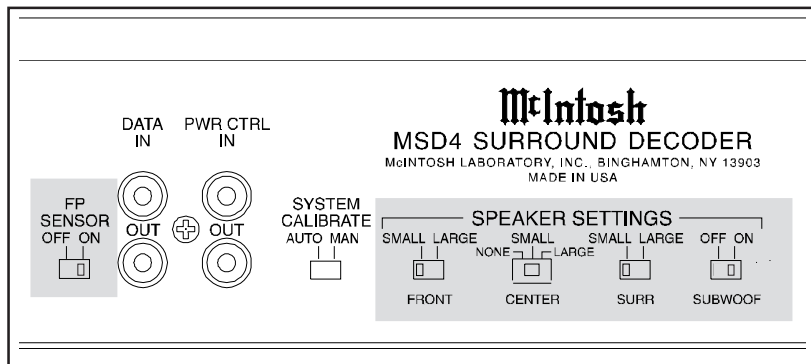

Figure 6
*NOTE: This will activate the MSD4's built in sensor for receiving the remote control commands from the optional HR34/HR39/HR130 remote control. Refer to Figure 6 on the next page, for location of Rear Panel Switches.*